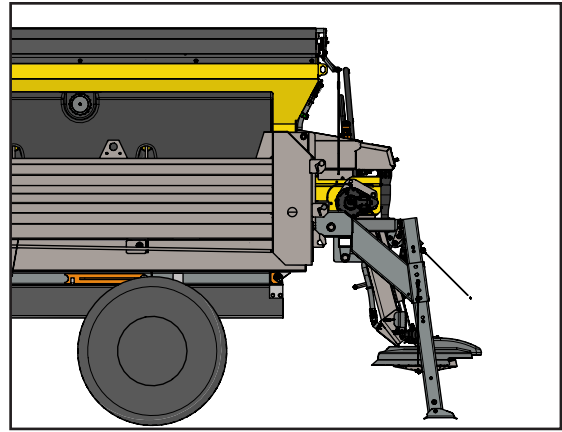

Figure 5
8. Figure 5 - Lower the dump body completely. The rear legs should be off the ground.